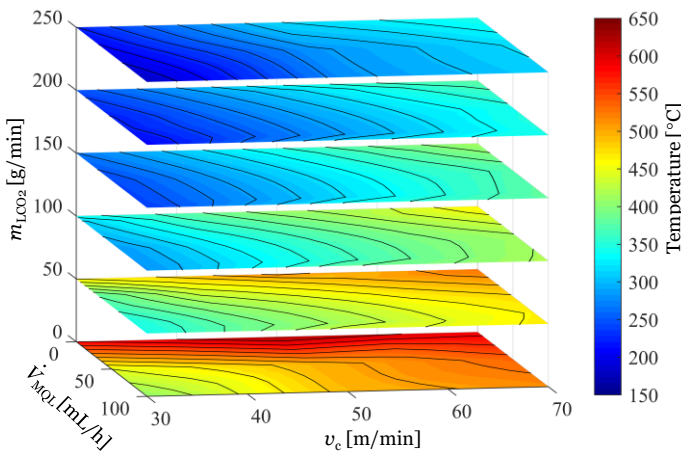

Figure 2. Drilling temperature at the drill exit point, dependent on cutting speed,  $\text{LCO}_2$  mass flow rate and MQL volumetric flow rate.
- Finding ideal cutting temperature – effect of parameters (Fig 2) ...  $T_{ideal} = ??$